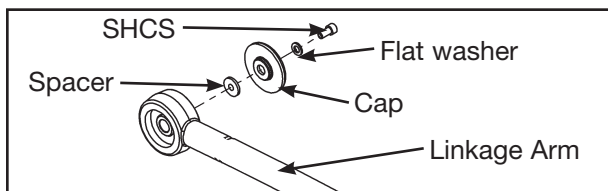

Figure 3
A. Using a 3/16" Allen wrench, remove the SHCS, flat washer, cap and spacer securing the linkage arm. See figure 3.